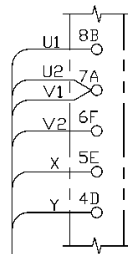

Figure 3-12 2 Gear Hoist Motor at 230V
- 3.5.9.2 Ensure the motor leads are wired in accordance with the power supply input voltage and appropriate gear reductions for the model and capacity. Note that the SNER003S is the only 2 gear motor hoist. See Figures 3-12, 3-13, 3-14 or 3-15.